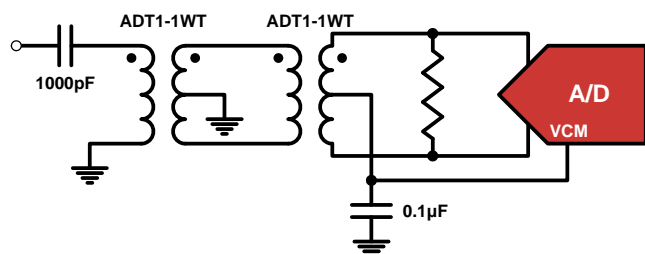

FIGURE 27. TRANSFORMER INPUT FOR GENERAL PURPOSE APPLICATIONS
Best performance is obtained when the analog inputs are driven differentially. The common-mode output voltage, V_{CM} , should be used to properly bias the inputs as shown in Figures 27 through 29. An RF transformer will give the best noise and distortion performance for wideband and/or high intermediate frequency (IF) inputs. Two different transformer input schemes are shown in Figures 27 and 28.